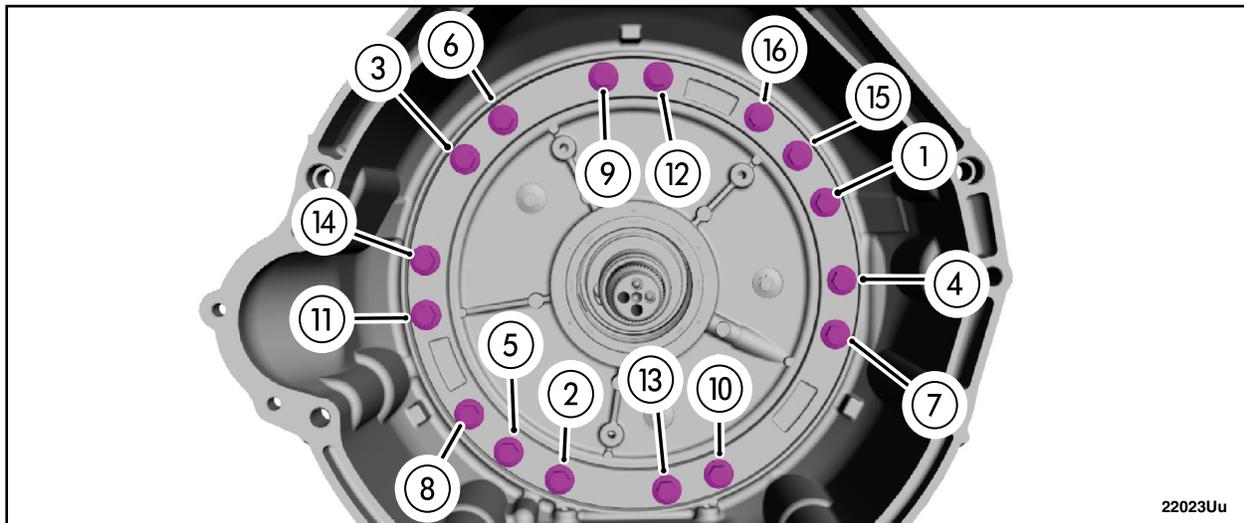

FIGURE 56
65. Tighten the bolts in the sequence shown. See Figure 56.